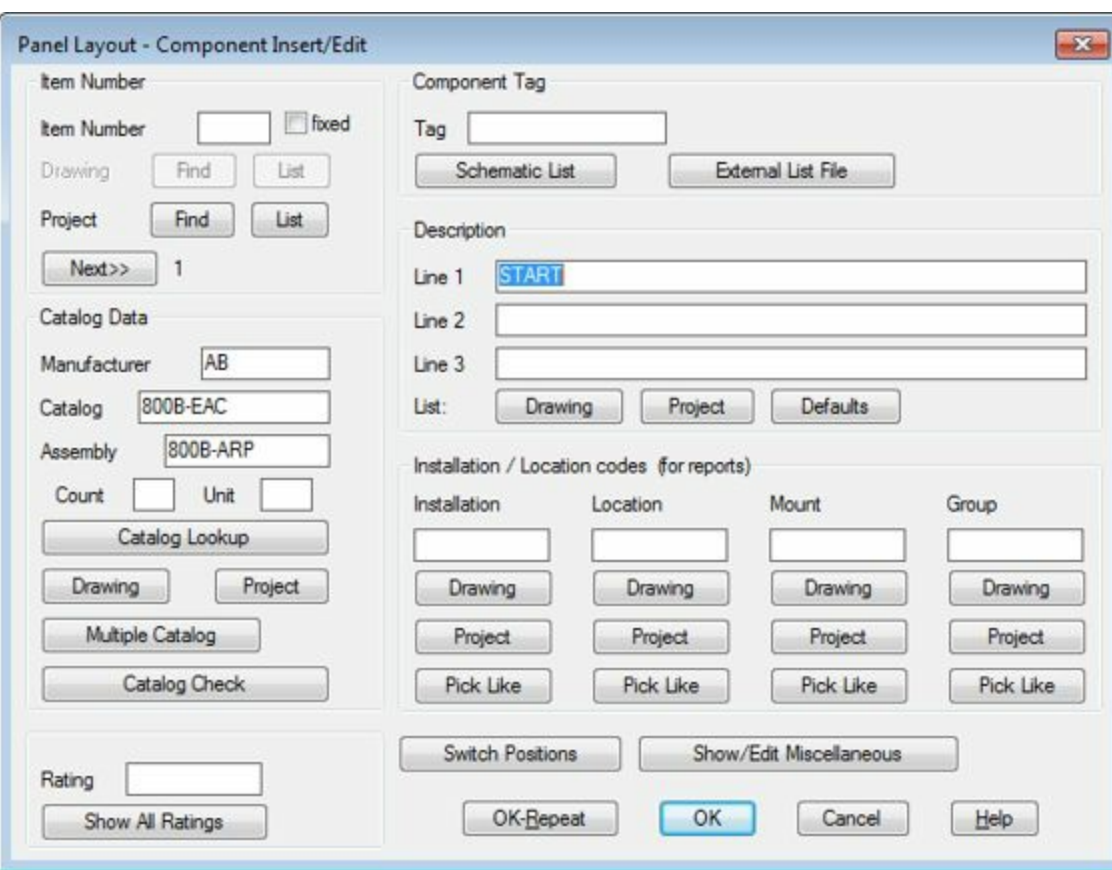

Figure-10. Panel Layout Component Insert or Edit dialog box
- Specify the desired angle or press ENTER to use the default angle (i.e. 0 degree). The **Panel Layout-Component Insert/Edit** dialog box will be displayed; refer to Figure-10.